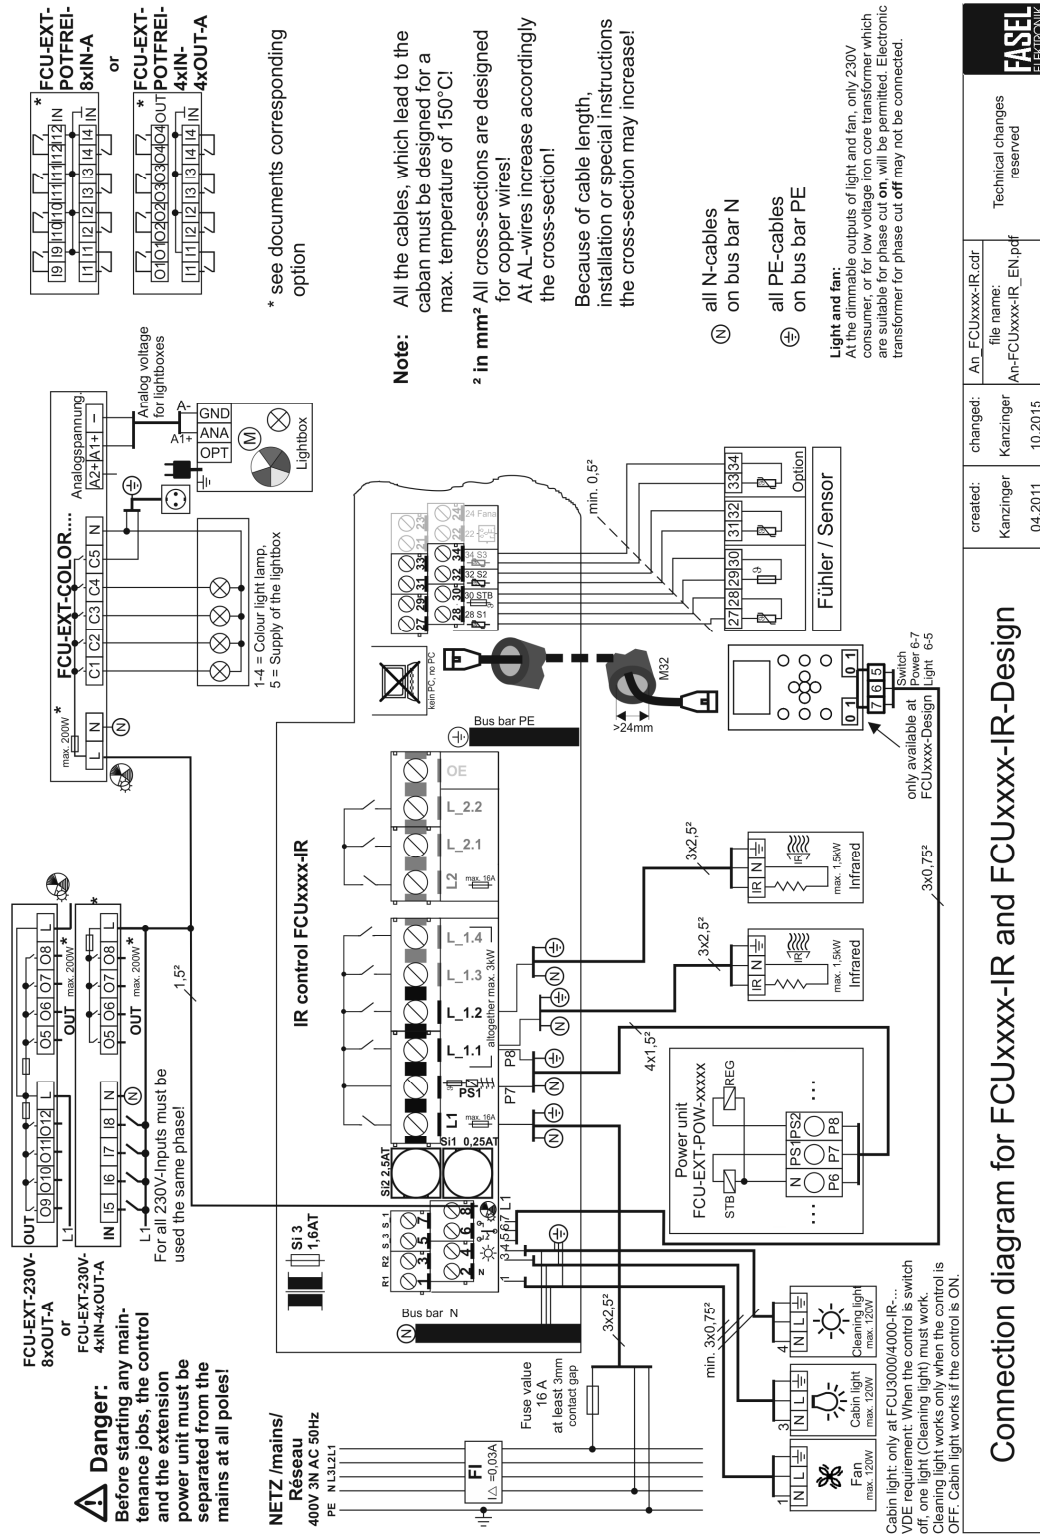

Figure 12: Electrical circuit diagram
→ For electrical circuit diagram see page 27, Figure 12
- Have the cable specifications given 2.3, page 10 and the electrical circuit diagram, Figure 12, page 27 been followed?